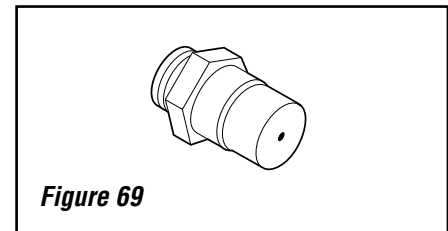

Figure 69
Step 7. Remove the burner orifice from the manifold and replace it with the one provided with the kit. See *Table 14* for orifice sizes required for use with natural gas or propane gas. *Figure 69* illustrates the orifice.